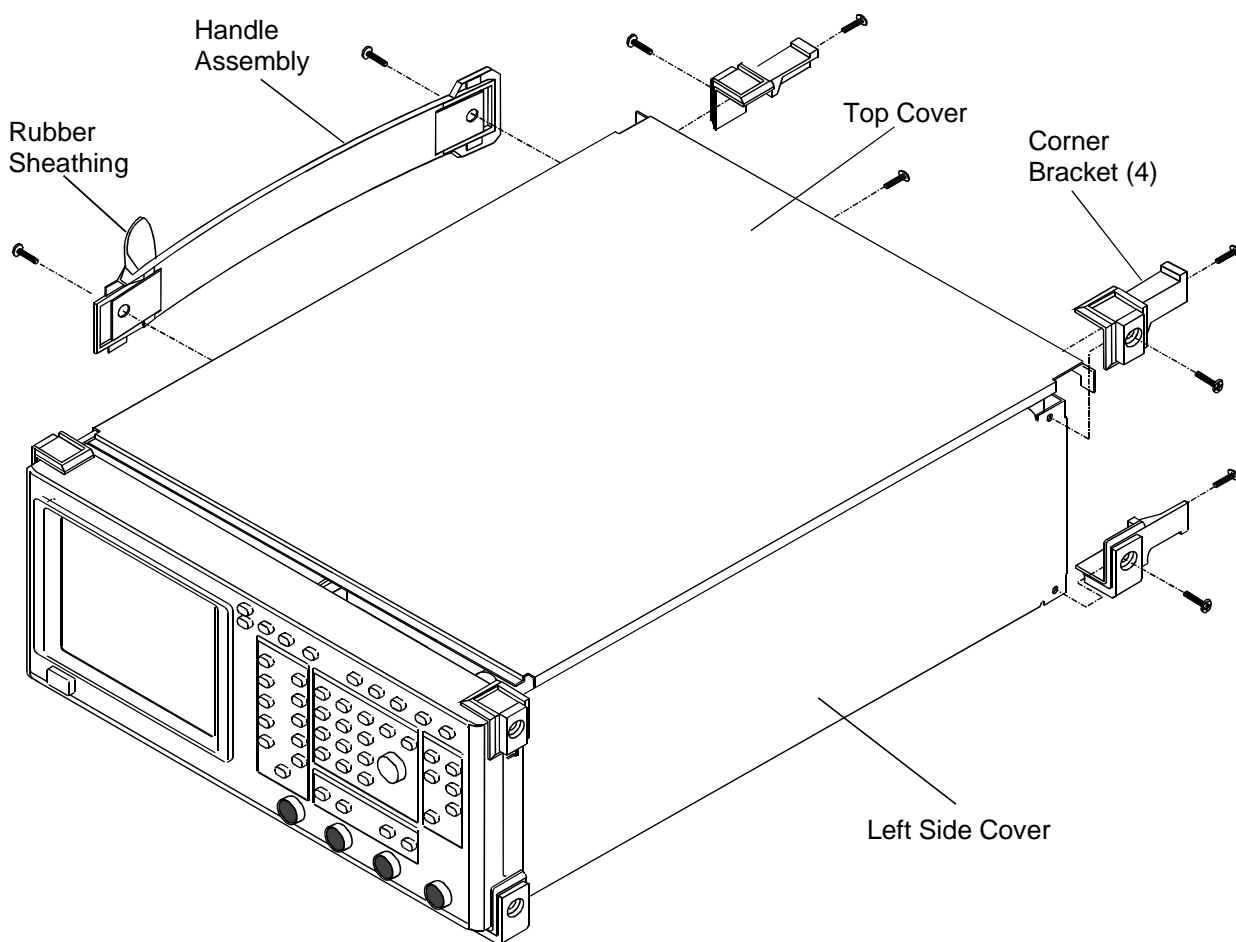

Figure 6-1. Exploded View of Chassis Covers
- Remove the feet from the two top corners at the rear of the 56100A (Figure 6-1).